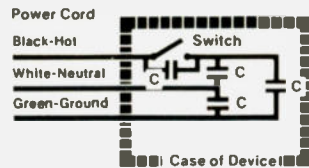

Fig. 8. C = .001 uF, disc ceramic.
a. Interference from a drill or saw is actually caused by arcing between the brushes and commutator. The interference then is transmitted through the power cord. Bypassing each side of the line to ground with a capacitor, and each side to the other, may be helpful. Also, bypass the switch. Fig. 8 shows the schematic involved. The bypassing should be internal to the device in question.